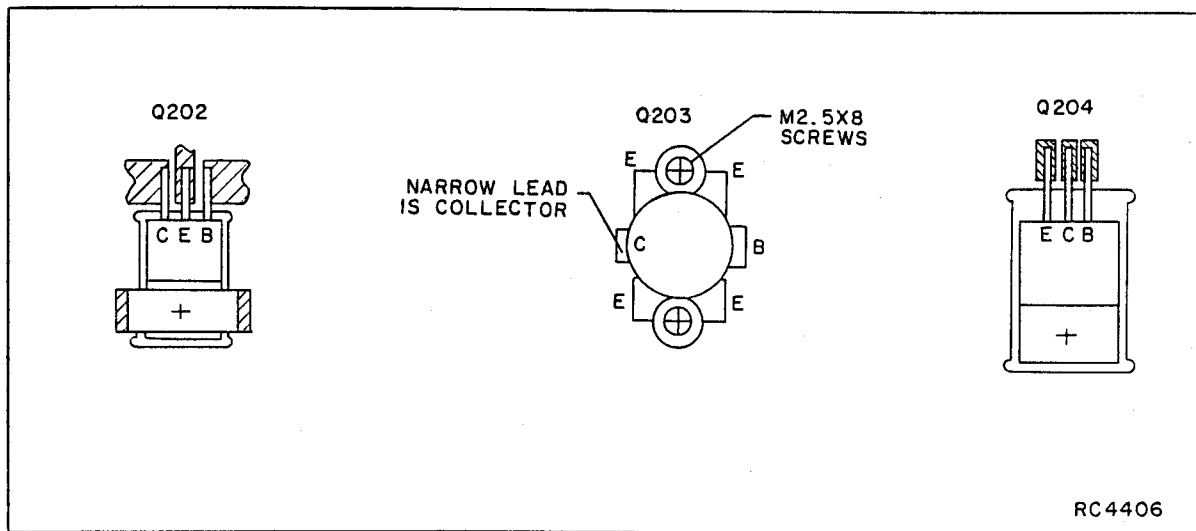

Figure 3 - Driver and PA Transistor Lead Identification
4. Trim the new transistor leads (if required) to the lead length of the removed transistor. The letter "C" on the top of the transistor indicates the collector (See Figure 3).